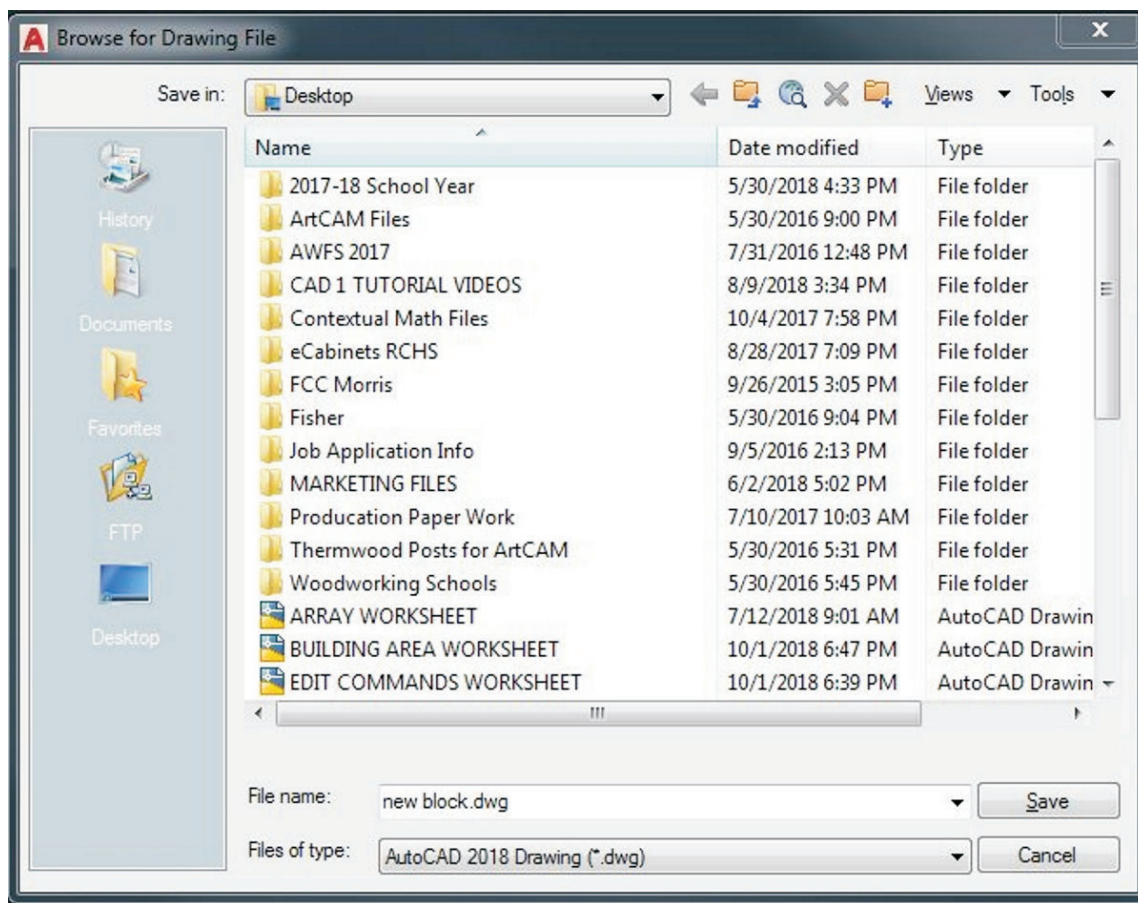

FIGURE 12. AutoCAD's Browse For File Window. (AutoCAD screen shot reprinted with the permission of Autodesk, Inc.)
- ◆ When the icon is picked, it opens the browse for drawing file window as shown in FIGURE 12. The **browse for drawing file window** allows the CAD operator/drafter to pick the location AutoCAD will save the wblock. The CAD operator/